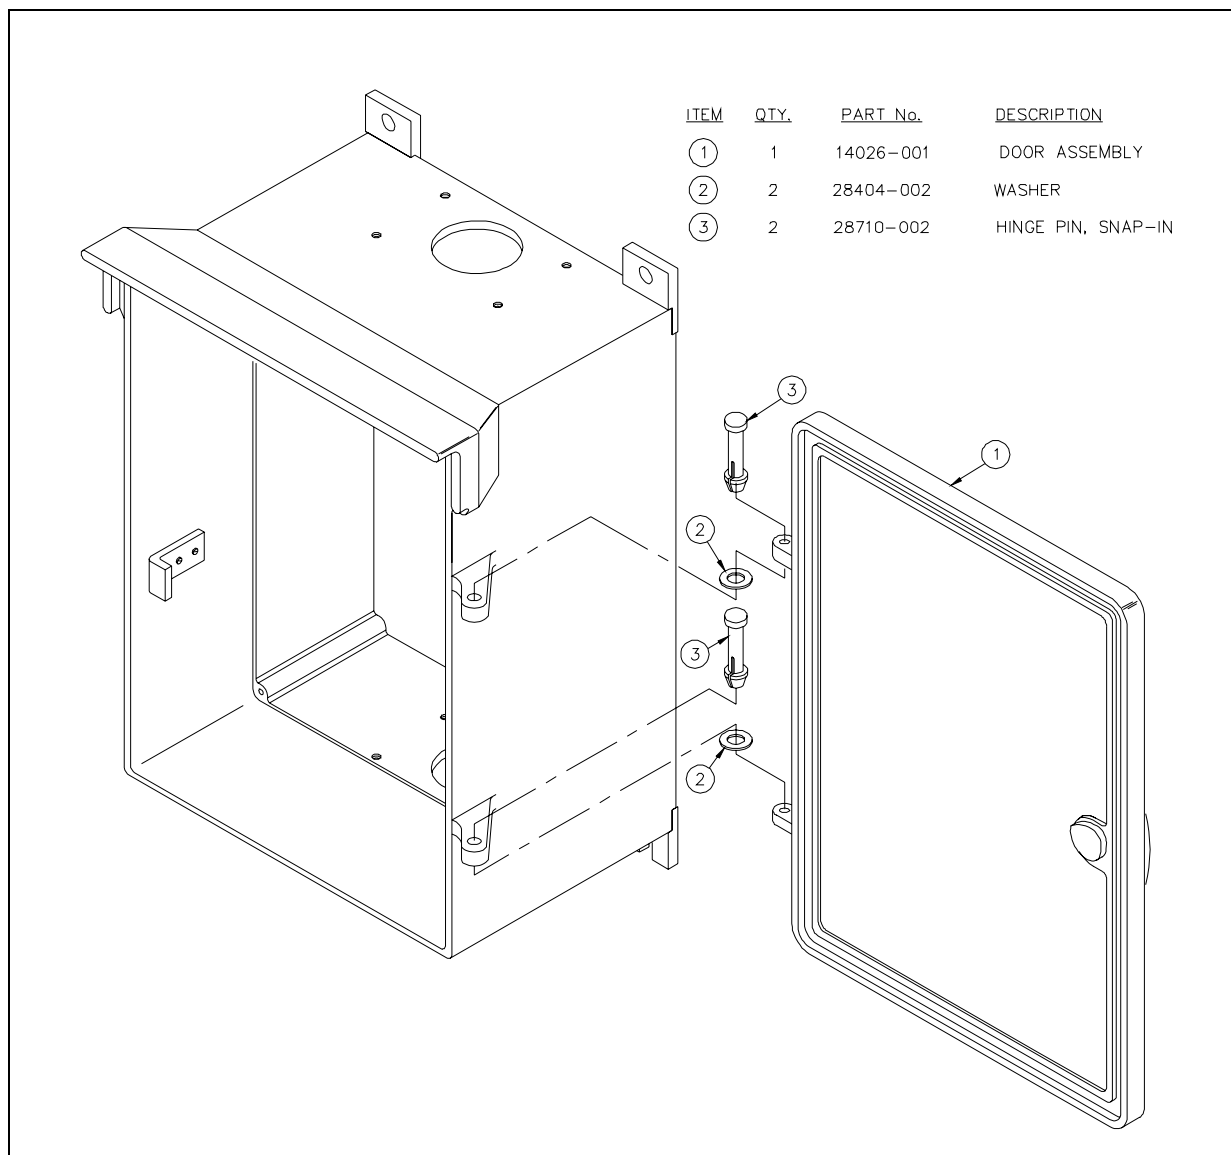

Figure 1. Replacement Door Assembly
2. After removing the old door from the enclosure, check the fit and clearance of the replacement door by placing the door assembly onto the enclosure. Place the first of the two washers (item 2) beneath the upper door hinge and over the upper enclosure hinge bosses. Place the second washer beneath the lower enclosure hinge and over the top of the lower door hinge bosses. File the material from the door bosses if more clearance is required. See Figure 1.
3. Position the door assembly onto the enclosure and place one washer (item 2) beneath the upper door boss and over the enclosure boss. Insert the slotted end of the pin as shown in Figure 1 and in a downward direction, drive it through the holes of the door boss, washer, and enclosure boss.
4. Place one washer (item 2) beneath the lower enclosure boss and over the door boss. Insert the lower hinge pin, and in a downward direction drive the hinge pin through the holes of the enclosure boss, washer, and door boss.